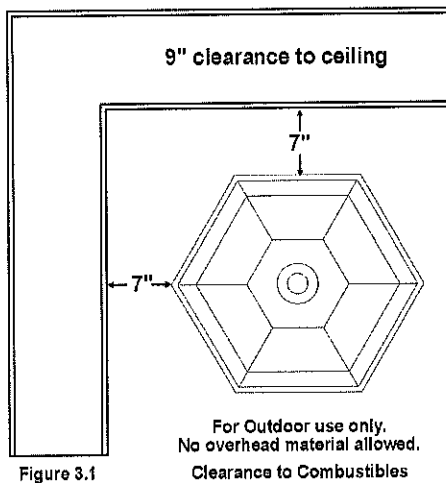

Figure 3.1
- When selecting a location for your appliance it is important to consider the required clearances to walls and overhangs (see Figure 3.1)